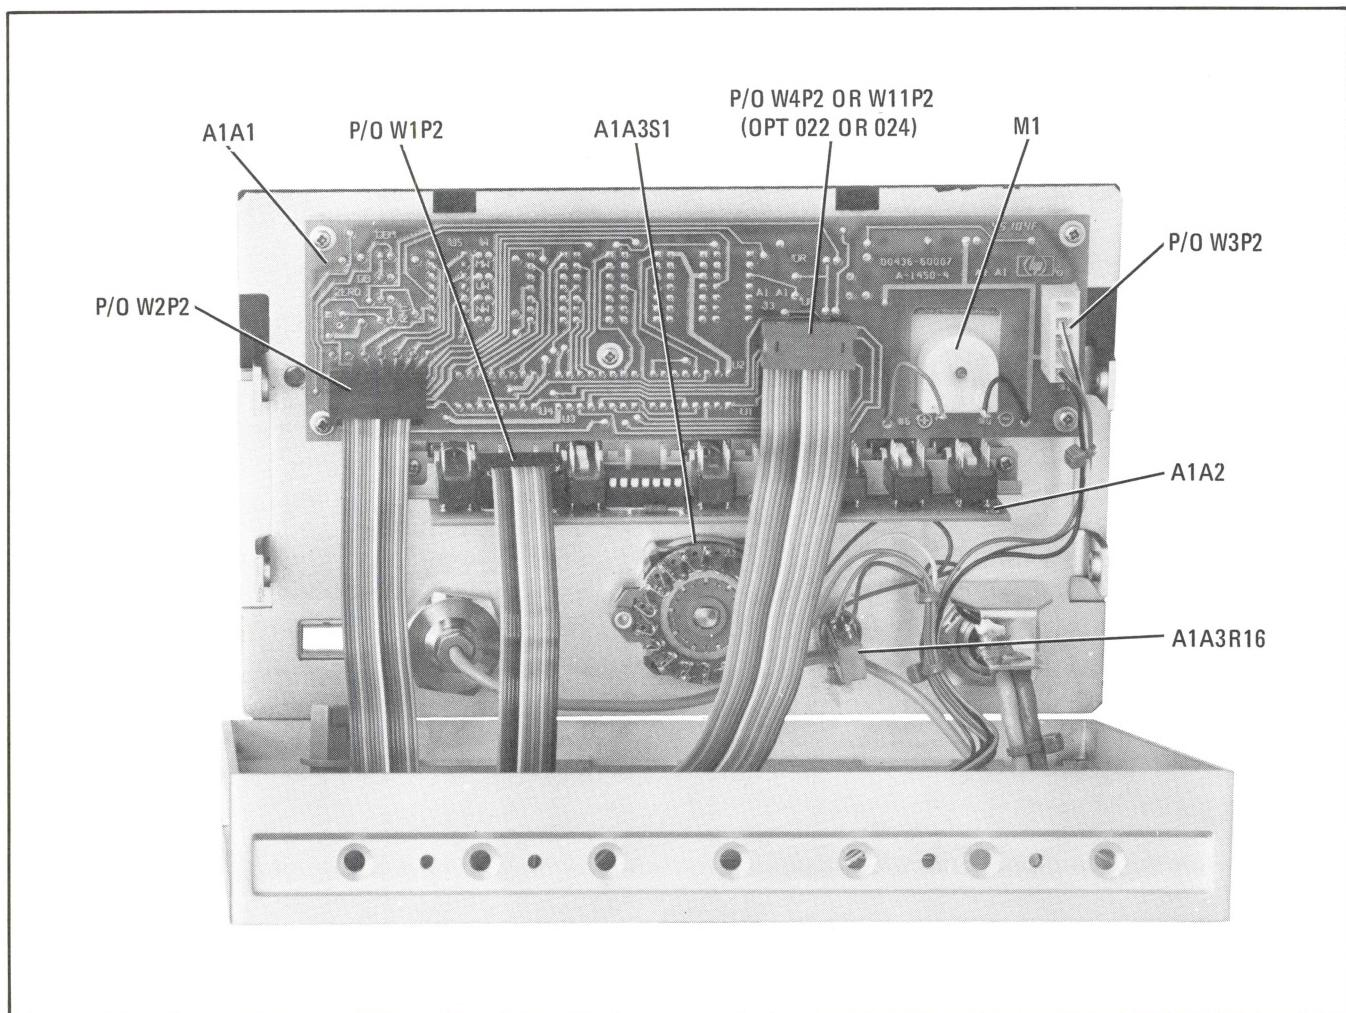

Figure 8-2. Front Panel Removal
d. Carefully push front panel from behind to free it from the front frame (see Figure 8-2).